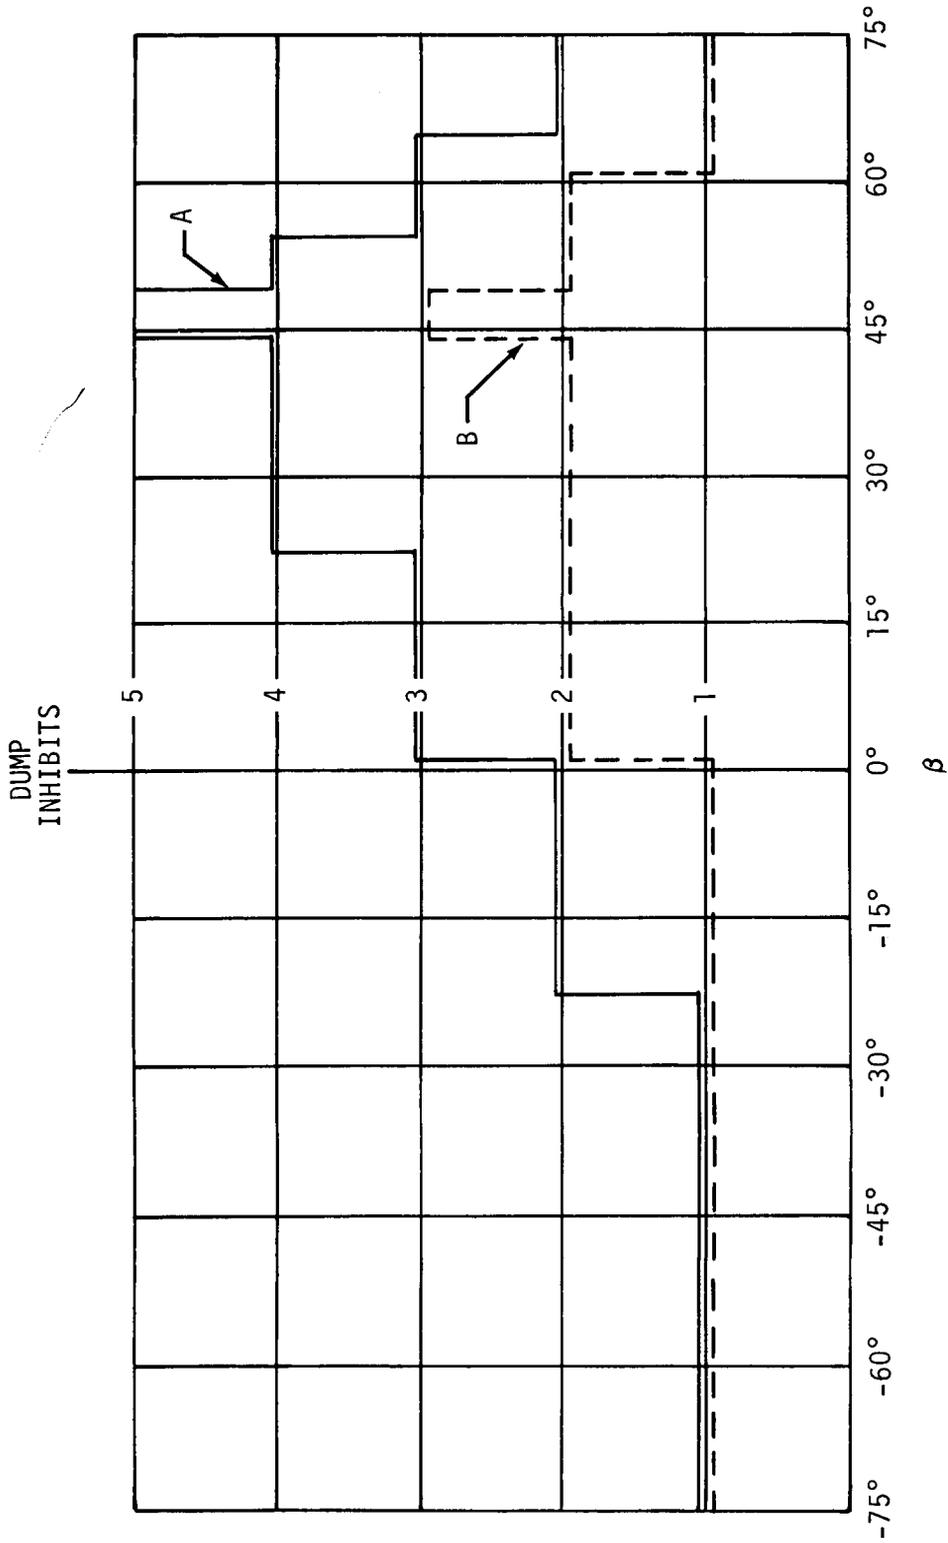

Figure D-4 MOMENTUM DUMP INHIBITS WITH NO TACS
- i) For Z-LV maneuvers CMG desaturation may not be inhibited one rev prior to a Z-LV pass nor two revs following the pass. Figure D-4 represents the number of consecutive momentum dump inhibits which can be done without using TACS. Curve A resulted from a nominal case computer simulation of orbital dumps and inhibits for 16 days. Curve B is the conservative estimate of what is really required for momentum management and will be the basis for scheduling.